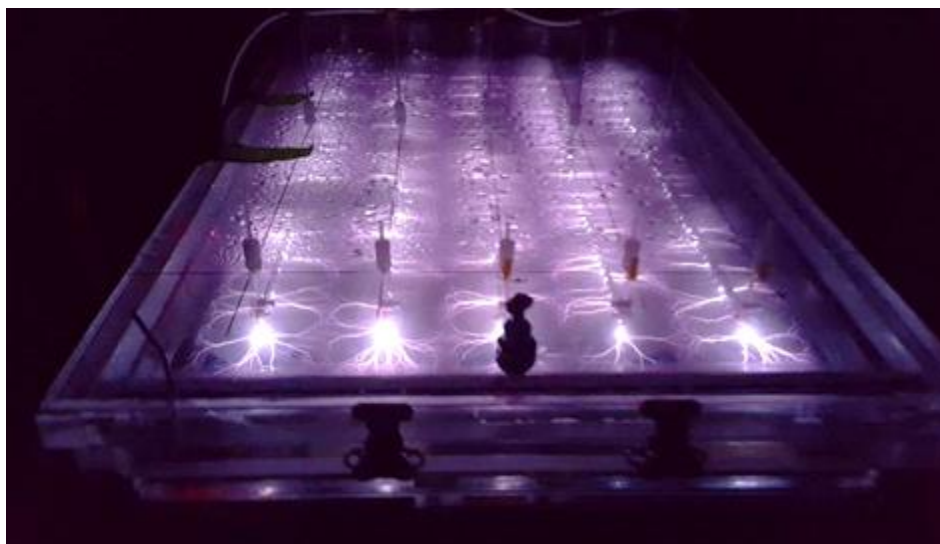

Figure 16: Electrical discharge plasma treatment system with a continuous flow of water through a tank with visible electrical arcs forming plasma.
- Non-thermal plasma (NTP) / electrical discharge plasma (see Figure 16)